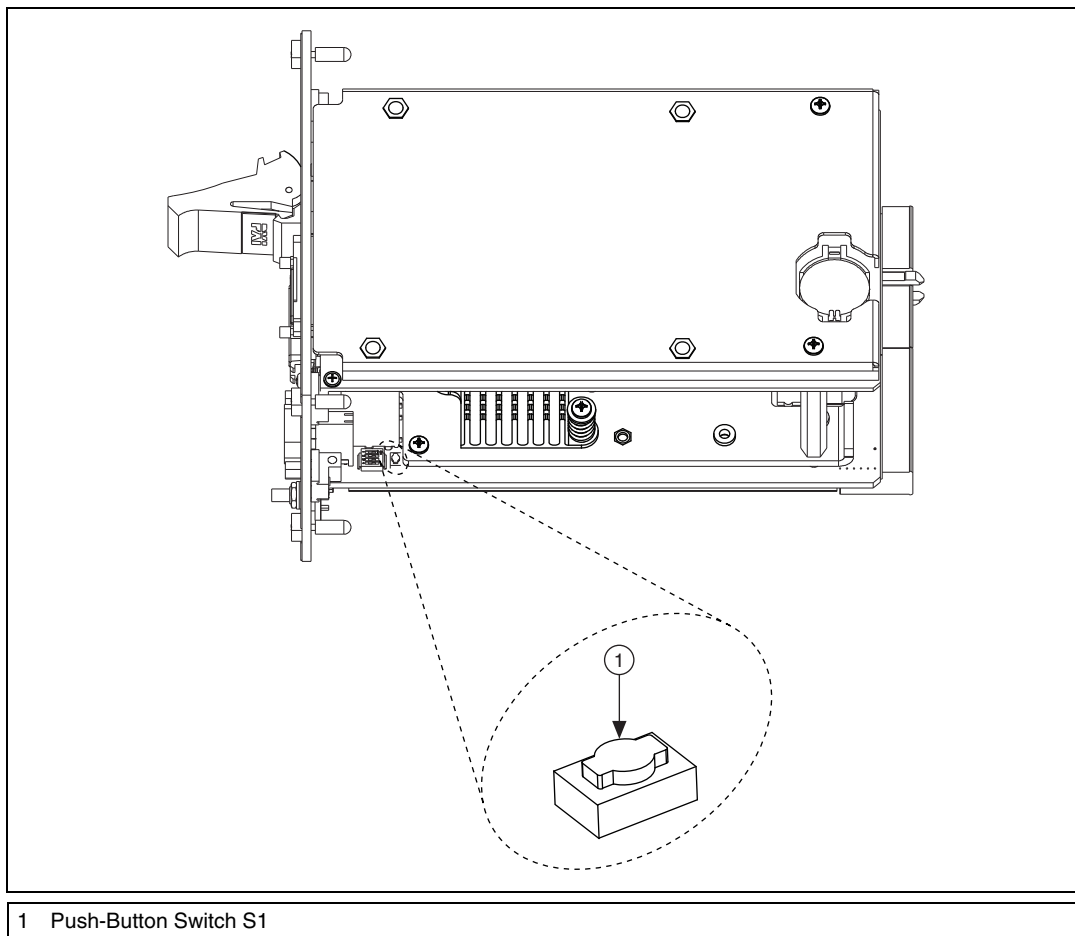

Figure 5-1. Clearing the CMOS Contents
3. Press and hold down the pushbutton switch SW1 for 2–3 seconds. The SW1 switch location is shown in Figure 5-1.